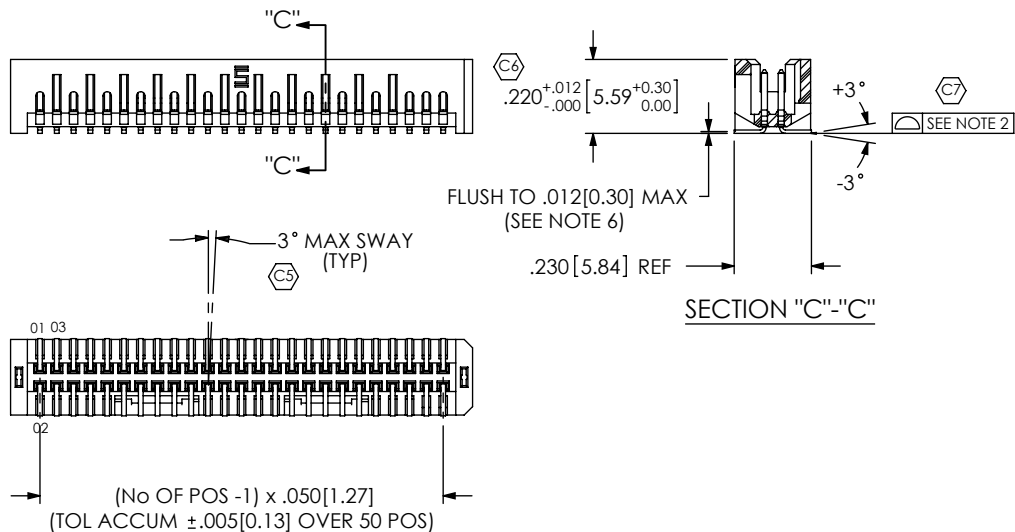

FIG. 5
- P: PICK & PLACE PAD (USE PPP-04) (AVAIL IN ALL POSITIONS, N/A ON -RA OPTION, SEE FIG. 5, SHT 2)